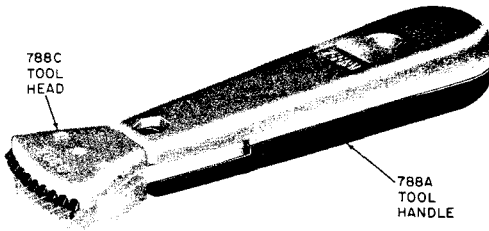

Fig. 9—5-Pair Cutoff Tool Head (788C Tool)
3.02 The *5-pair cutoff tool* consists of a 788A-type tool handle plus a 788C-type tool head (Fig. 9), is used to cut five cable pairs at one time on the index strip after proper wire insertion.